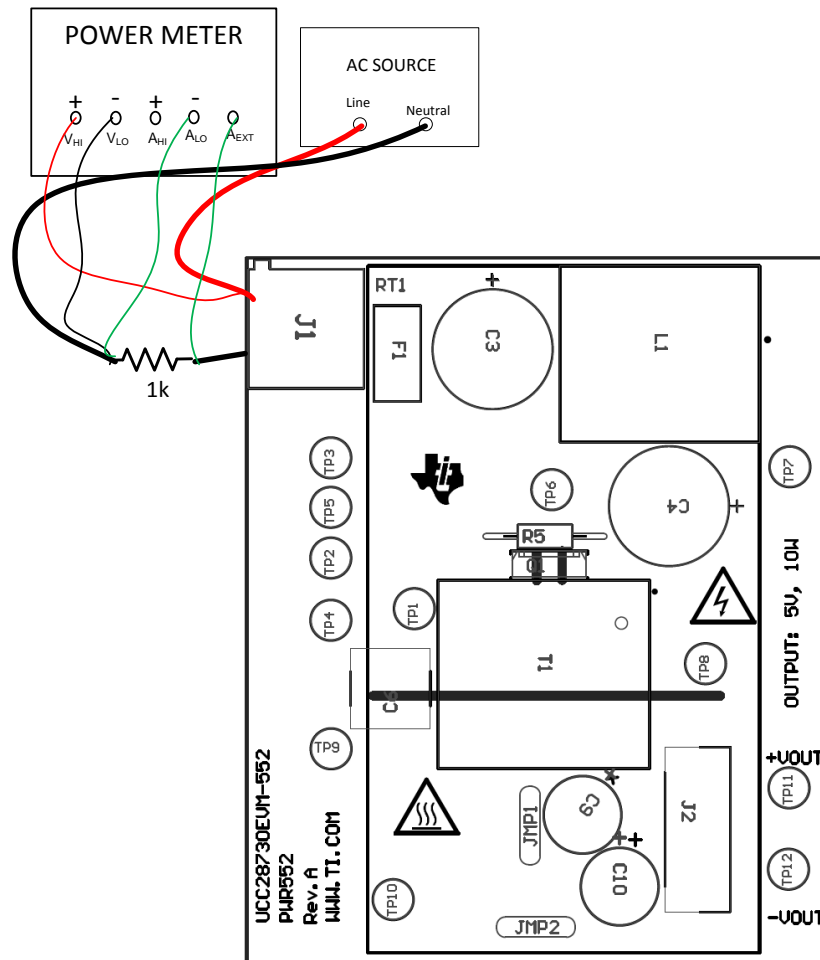
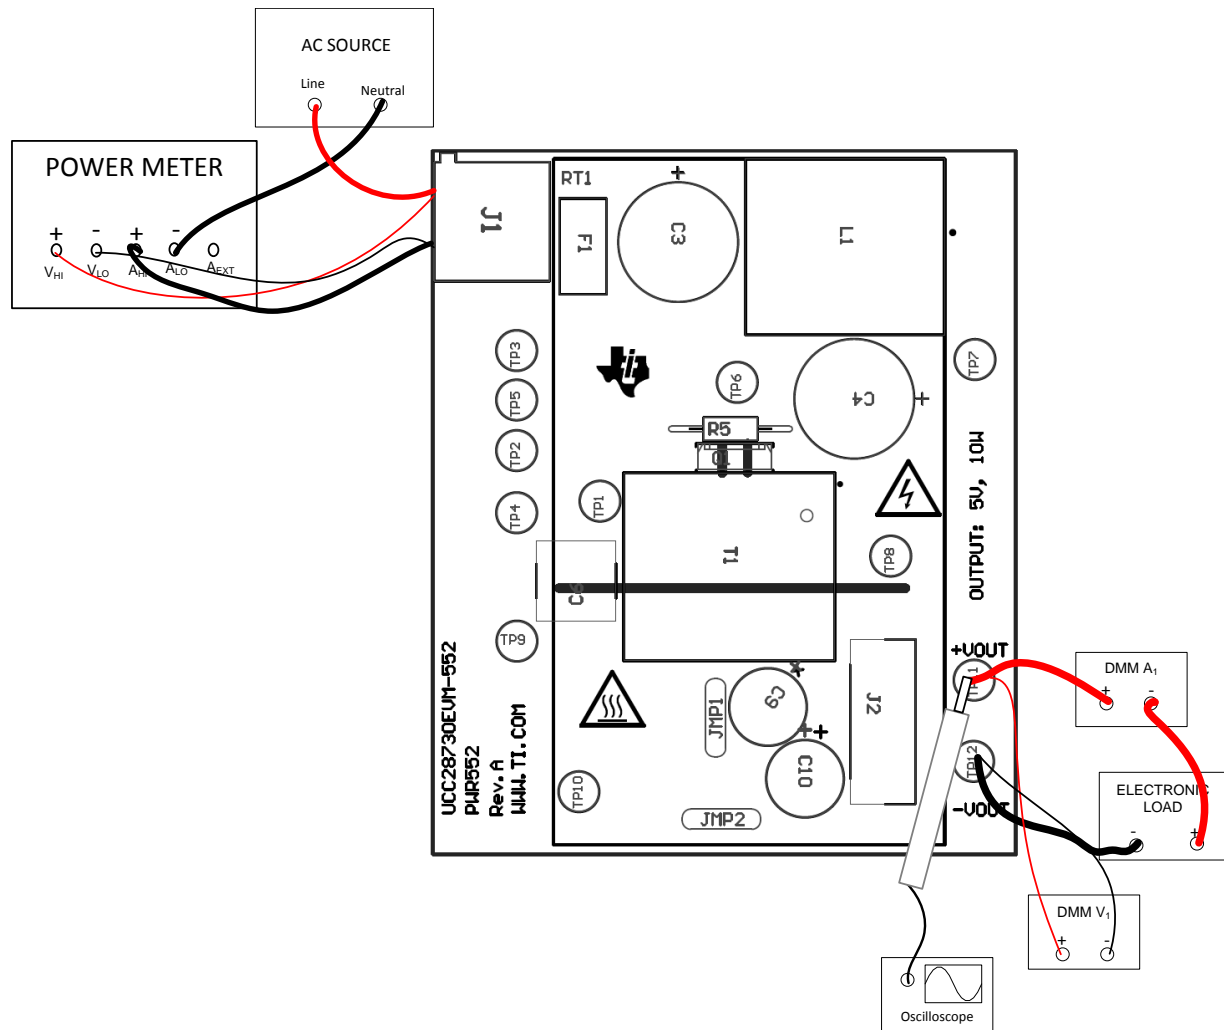

Figure 2. UCC28730EVM-552 Recommended Test Set Up For No-Load Operation
Figure 3. FUC28730EVM-552 Recommended Test Set Up With Load
Figure 2 shows the equipment set up when measuring the input power consumption during no-load operation. Note the addition of the 1-k Ω shunt resistor in Figure 2. During the no-load test, set the power analyzer for long averaging mode in order to include several cycles of operation. Use an appropriate current scale factor for the external shunt. Due to the extremely low measured values, placement of the shunt is critical and should be positioned right at the input terminals of the EVM. Figure 3 shows the recommended test equipment set up to evaluate the UCC28730EVM-552 with a load.
AC Voltage Source: For an input source, use an isolated variable AC source capable of supplying between 85 V_{AC} and 265 V_{AC} at no less than 20 W and connected as shown in Figure 2 and Figure 3. For accurate efficiency calculations, insert a power meter between the neutral line of the AC source and the Neutral terminal of the EVM. For highest accuracy in loaded conditions, connect the voltage terminals of the power meter directly across the Line and Neutral terminals of the EVM. For highest accuracy at no-load, connect the V+ voltage terminal of the power meter at the Line terminal of the EVM and the V- terminal of the power meter ahead of the shunt resistor (refer to Figure 2).
Power Meter: Use a power analyzer capable of measuring low input current, typically less than 1 mA, and a long integration mode, when low power standby mode input power measurements are taken. An example of such an analyzer is the Voltech PM100 Single Phase Power Analyzer. An external precision 1-k Ω shunt, with a current scale factor of 100000 mV/A, was used. The power analyzer was set to integration mode over 6 minutes for a reading of mW-hour in order to display one-tenth the averaged results (refer to Figure 2).
Multimeters: For highest accuracy, V_{OUT} can be monitored by connecting a DC voltmeter, DMM V1, directly across the V_{OUT+}, TP 11, and V_{OUT-}, TP12, as shown in Figure 3. Place a DC current meter, DMM A1, in series with the electronic load for accurate output current measurements.
1. Set up the EVM as shown in Figure 2 if testing at no-load, or Figure 3 if testing with a load.
1. Use the test set up shown in Figure 2. Careful placement of the shunt resistor is required.
1. For load regulation, use the test set up shown in Figure 3.
2. For line regulation, use the test set up shown in Figure 3.